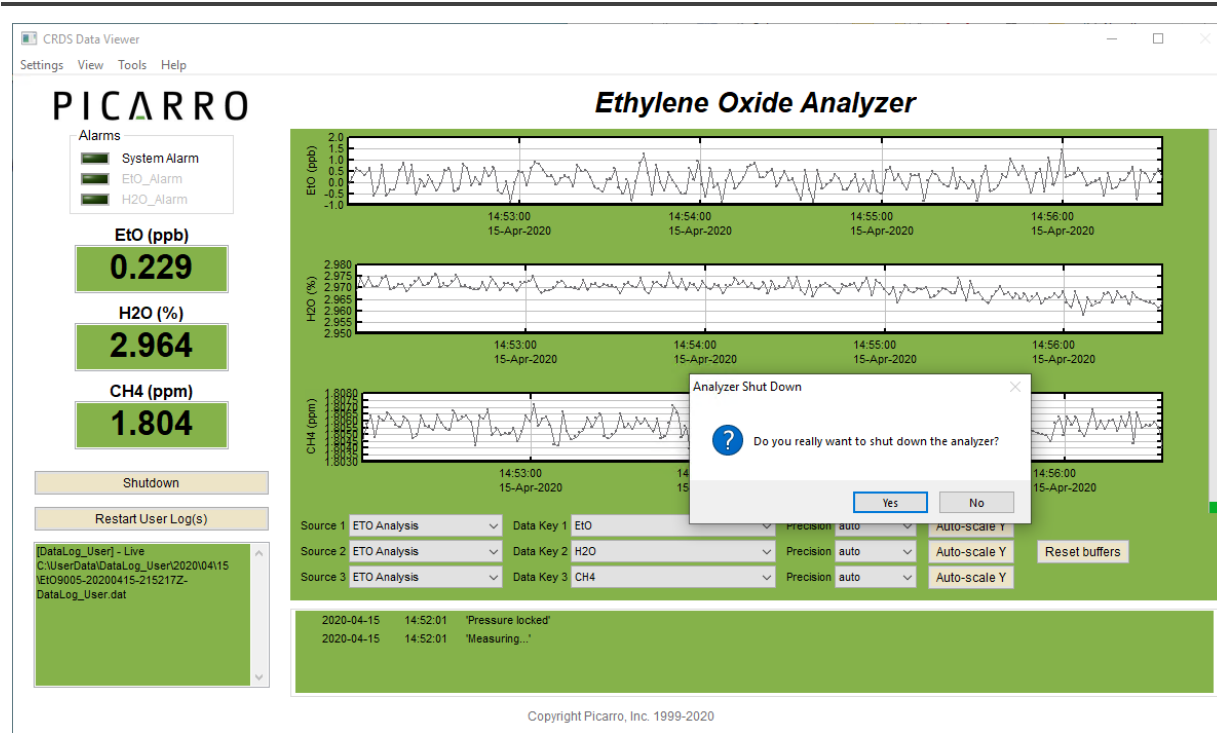

Figure 10: Shutdown Confirmation Pop-up
2. A window will pop-up (Figure 10) prompting the user to confirm the shutdown. Once confirmed, the analyzer software and hardware will turn off.